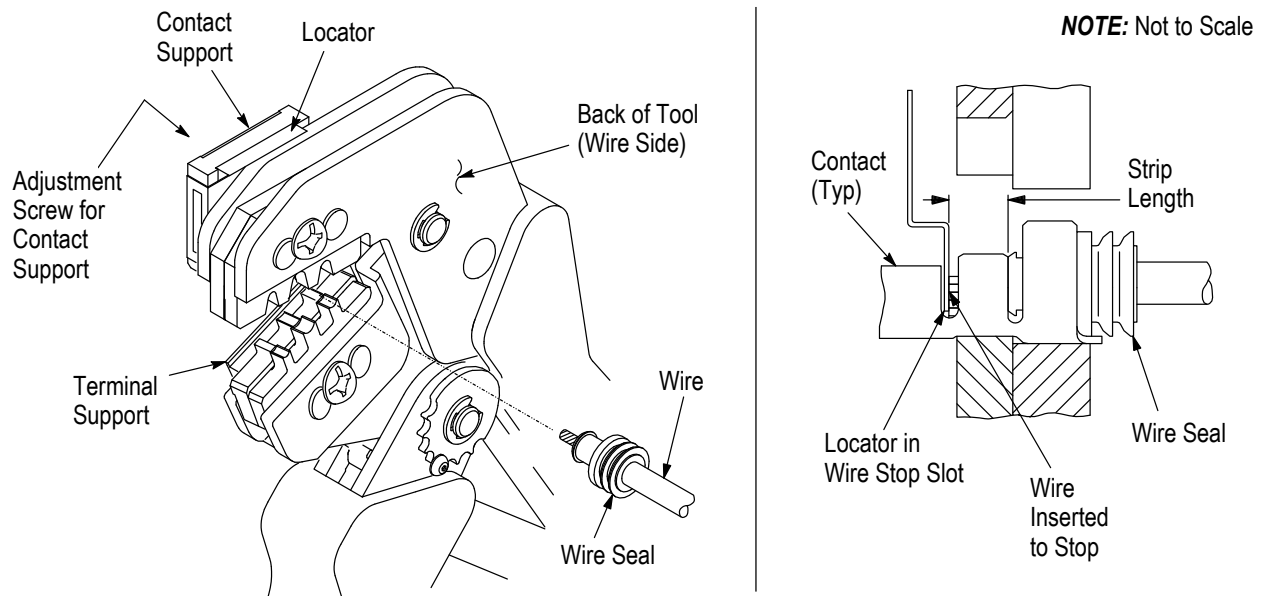

Figure 3
4. CONTACT SUPPORT ADJUSTMENT (Figure 3)
Refer to the table in Figure 1 and select wire of the specified size and insulation diameter. Strip the wire to the length indicated in Figure 1, taking care not to nick or cut wire strands. Select an applicable contact and identify the appropriate crimp section according to the wire size markings on the tool. Refer to Figure 3 and proceed as follows:
3. Position the contact so that the mating end of the contact is on the locator side of the tool, and so that the open “U” of the wire and insulation barrels must face the top of the tool. Place the contact up into the nest so that the movable locator drops into the slot in the contact. Refer to Figure 3. Butt the front end of the wire barrel against the movable locator.
5. Insert stripped wire (with the wire seal) into contact insulation and wire barrels until it is butted against the wire stop, as shown in Figure 3.
The crimped contact may stick in the crimping area, but the contact can be easily removed by pushing downward on the top of the locator (see Figure 3).